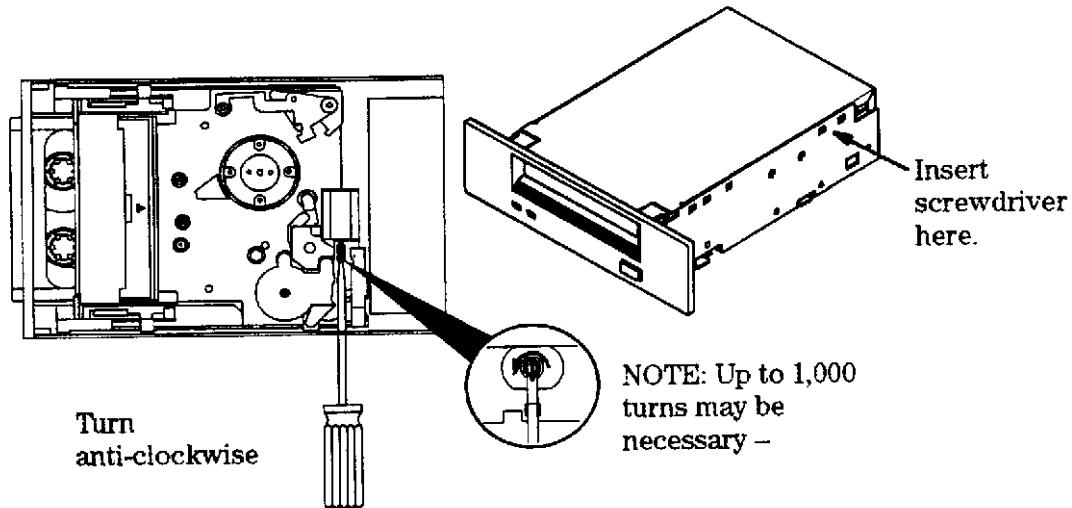

Figure 8-42. Manual Cartridge Removal
4. See Figure 8-42. Insert a size 00 cross head screwdriver through the emergency eject access hole. (Some early revisions of the mechanism have single slots in the end of the worm gear, use a flat blade screwdriver in this case.)